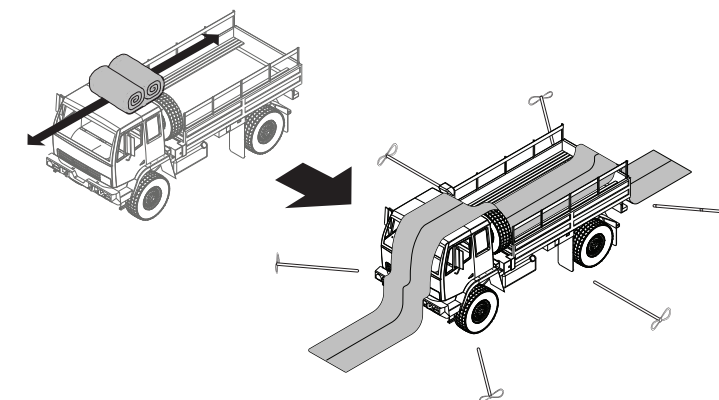

Figure 10.
4. Unroll/Unfold ULCANS net assembly, centered atop equipment, as shown in Figure 10.